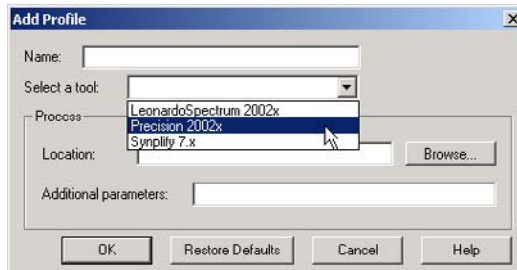

Figure 2-3. Add Profile Dialog Box in Libero IDE
8. Click the **Restore Defaults** button to use the default tools included with Libero IDE. Click the **Add** button to add a different Synthesis, Simulation, or Stimulus tool. If you wish to **Add** a tool, Libero IDE opens the **Add Profile** dialog box (Figure 2-3).